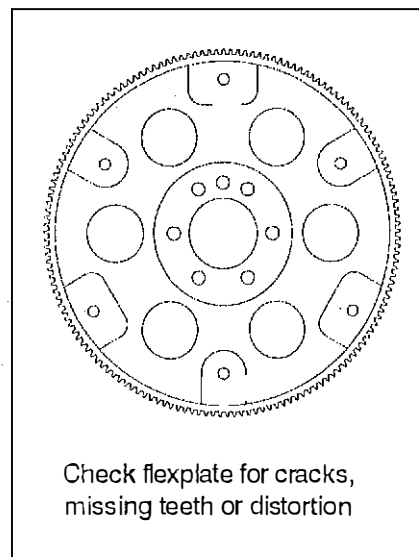

Figure 3
STEP 8. Remove and inspect the flexplate for distortion, cracks or damaged ring gear teeth, see (Fig. 3). If the flexplate shows any damage it should be replaced. Do not attempt to repair a damaged flexplate.
STEP 9. Assemble the flexplate to crankshaft and align all holes before installing the bolts. When properly installed the raised lip on the flexplate should face away from the crankshaft flange, see (Fig 3). Torque the bolts to 81 Nm (60 lb.ft.)